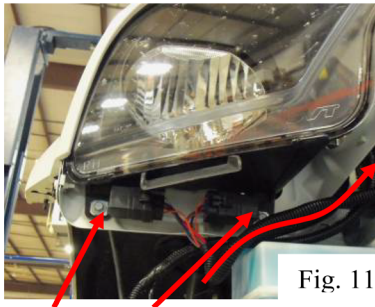
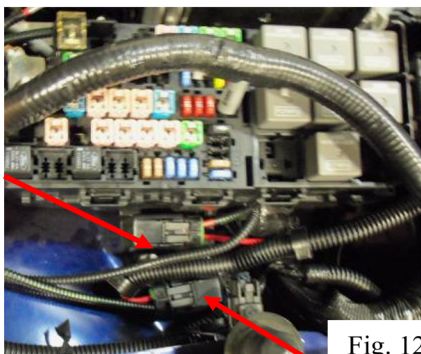

Fig. 11
Fig. 12
- 30) Install the plastic shroud on the outside of the AFCO brackets using the four factory clips (Fig. 11).
32) The dual relay harness can now be installed. First, start by removing the lower two bolts on the passenger side headlight and attaching the relays as can be seen below. Tighten the two bolts (Fig. 11).
33) Next, run the fuse holders up through the radiator support, and towards the passenger side of the fuse box (Fig. 11). The fuse holders should be mounted to the two bolts that attach the fuse box to the fender well. The fuse holder with the shorter lead should be mounted with the wires towards the firewall (Fig. 12).